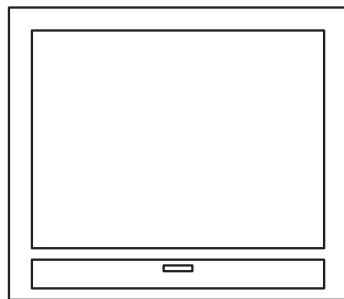

Fig. 11-6
- 2-4. Compare the use of ortho with object snap tracking and polar tracking by drawing the objects shown in Figs. 11-6 through 11-8. Create a new drawing to hold the objects. Turn on the coordinate display and note the display as you construct each object.